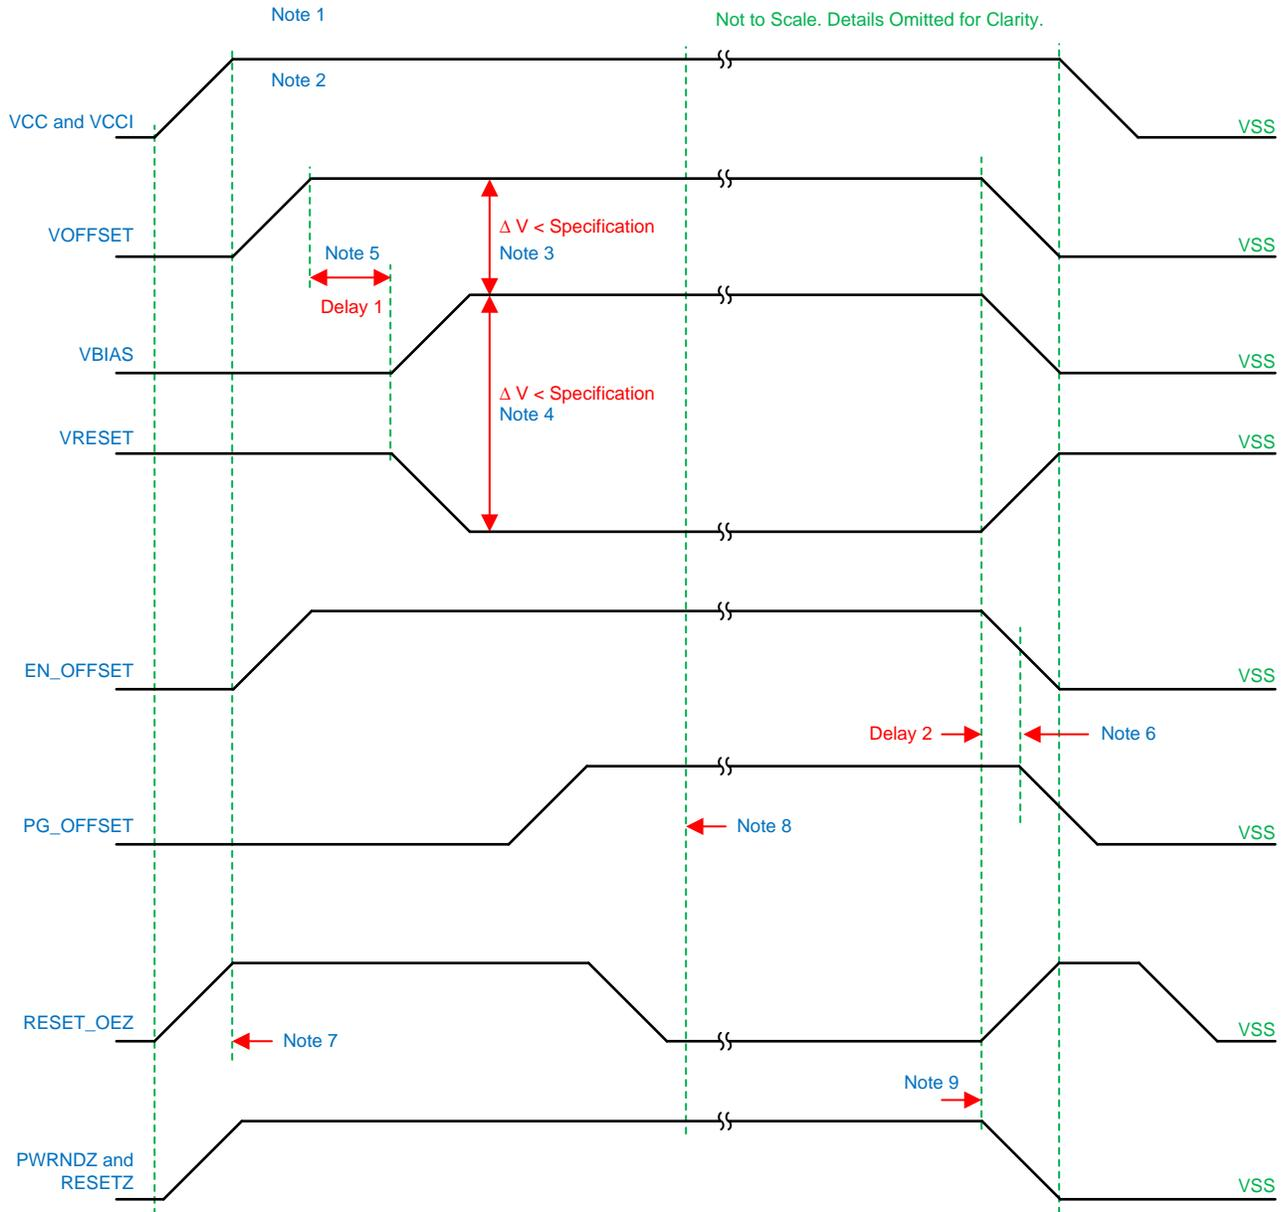

图 14. DMD Power Supply Timing Diagram
See the start-up and shutdown power sequence timing requirements in the DLP470NE data sheet, which must be consulted to ensure full compliance. 图 14 and 表 3 show a snapshot of these requirements.
5. The VBIAS should power up after VOFFSET has powered up, per the Delay 1 specification in 图 14.
6. The PG_OFFSET should turn off after EN_OFFSET has turned off, per the Delay 2 specification in 图 14.
- During power up, VCC and VCCI must always start and settle before VBIAS, VRESET, and VOFFSET plus Delay 1 as 图 14 shows.